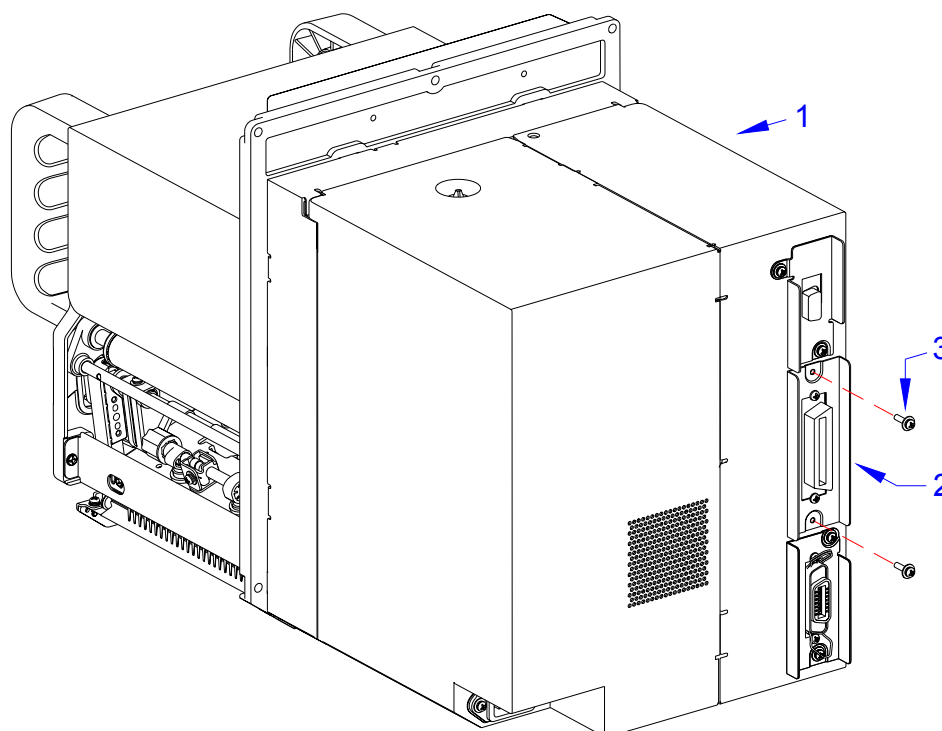

Figure 3-18, Interface Installation
1. Switch off the printer (1, Figure 3-18) and follow applicable lockout-tagout procedures.
2. Remove interface slot covering (not shown) from printer (1) as applicable.
3. Insert chosen interface board (2) into its assigned slot and secure using two screws (3).